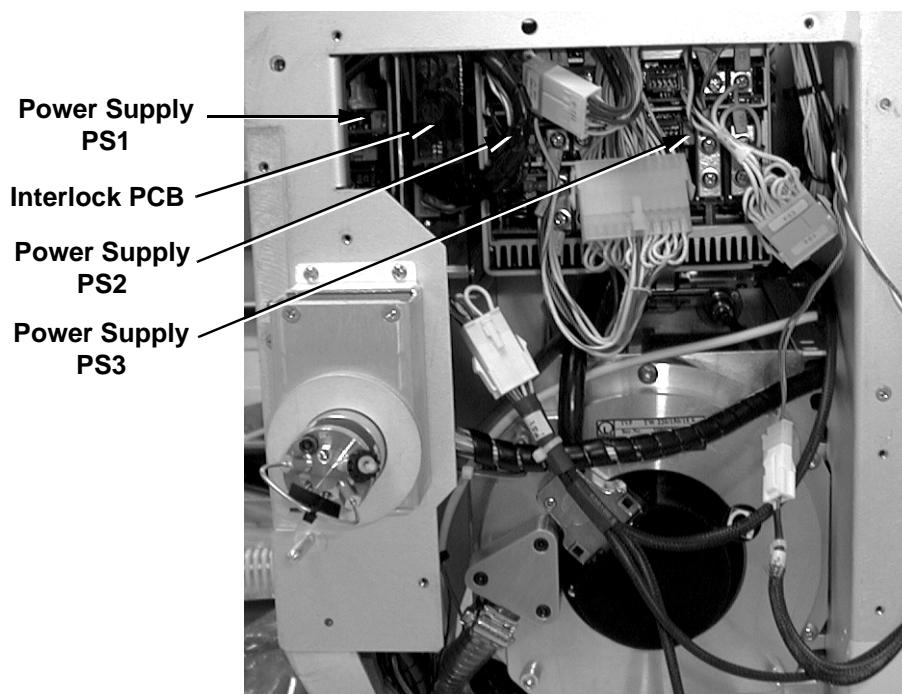

Figure 7-2. Power supplies and PCBs accessible from the front
- PCBs and assemblies that are accessible from the front of the mass spectrometer (See Figure 7-2.)